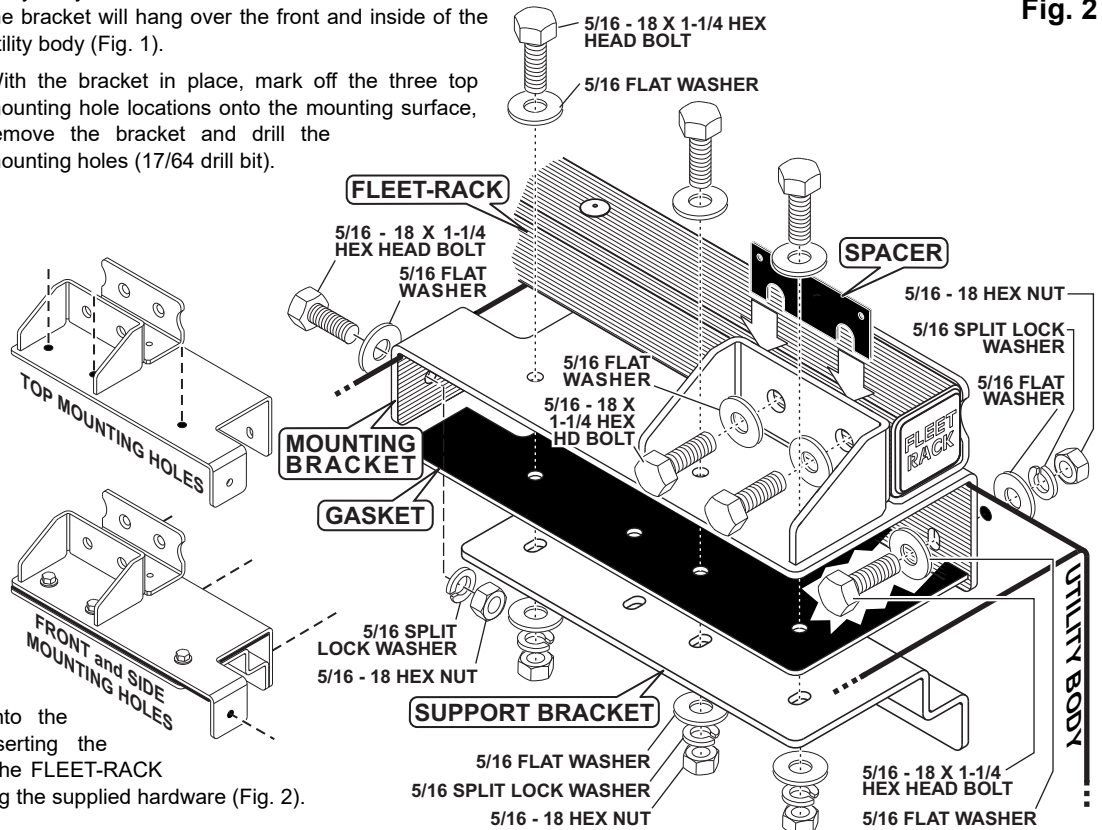

Fig. 2
6. Insert the FLEET-RACK™ into the mounting brackets while inserting the supplied spacers and secure the FLEET-RACK into the mounting brackets using the supplied hardware (Fig. 2).